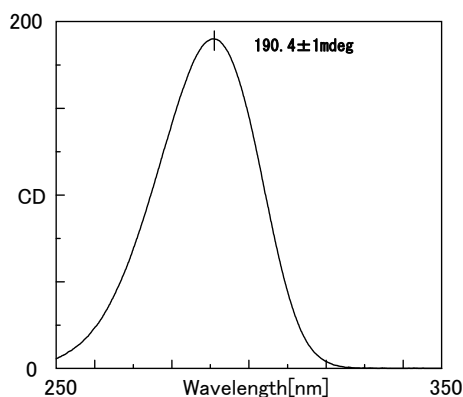

Figure. 4.12 CD spectrum of 0.06% ammonium d-10-camphor sulfonate
- (3) Fill the 10 mm light path cell with 0.06% aqueous solution of ammonium d-10-camphor sulfonate (solvent: distilled water), and mount the cell in the sample compartment.
- (4) Select the [Sample] command from the [Measure] menu to make a measurement.
- (5) Using the spectrum analysis program, confirm that the peak value of Channel 1 (Fig. 4.12) is 190.4 ± 1 mdeg (291.0 nm). If the peak value does not fall within this range, adjust the instrument according to the following procedure.